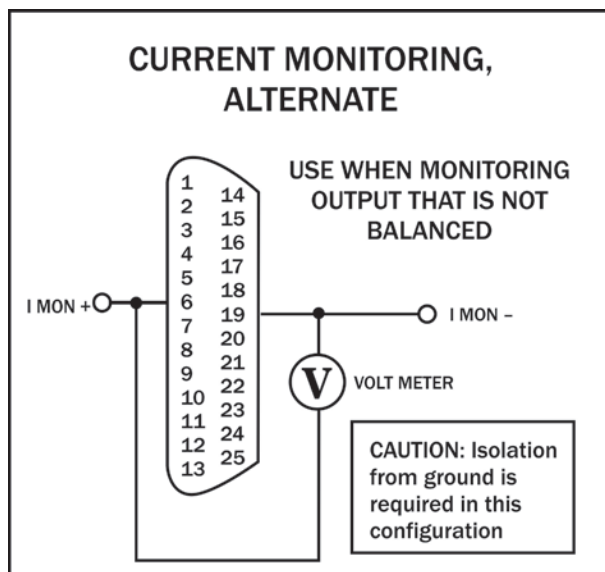

Figure 6.11 – Remote Current Monitoring, Alternate Method
**Method:** Connect a voltage meter to monitor the output current being produced by the amplifier. Connect across PIN 6 (IMON+) and PIN 19 (IMON-). See **Figure 6.11**.